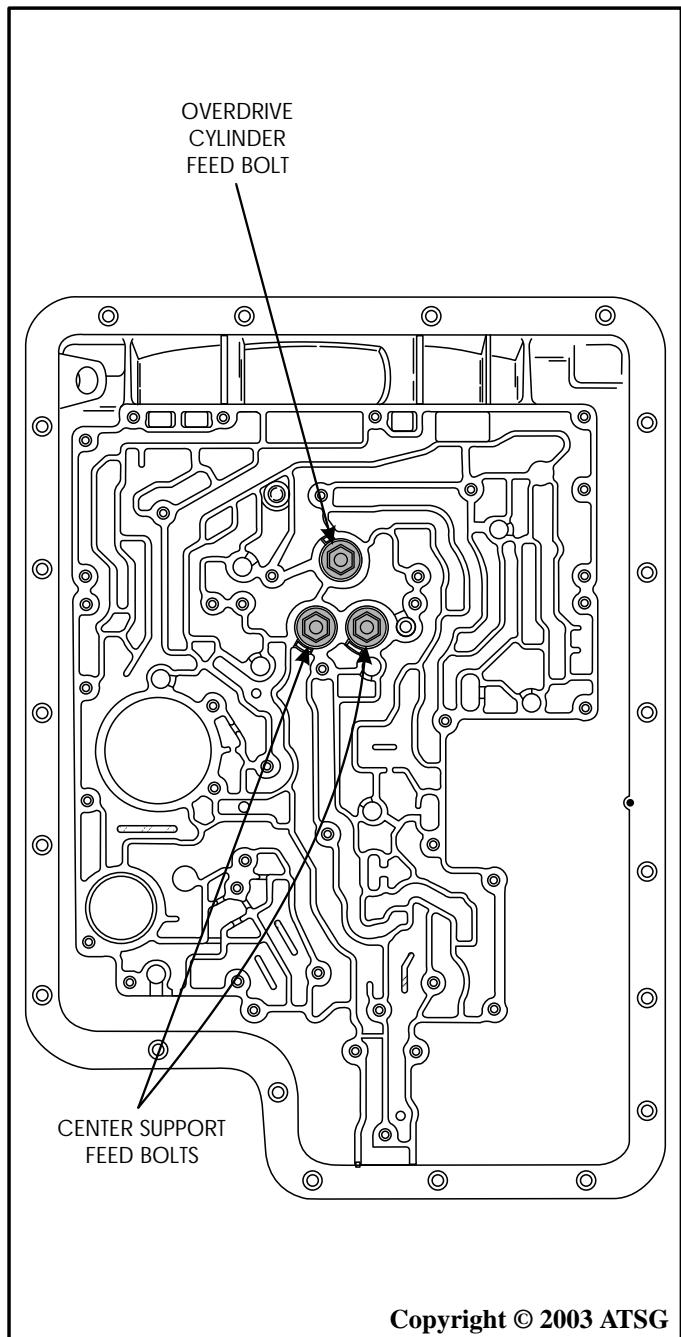

Figure 178
11. Loosely install the two center support feedbolts as shown in Figure 178.
17. Loosely install a **new** overdrive clutch cylinder feedbolt as shown in Figure 178.